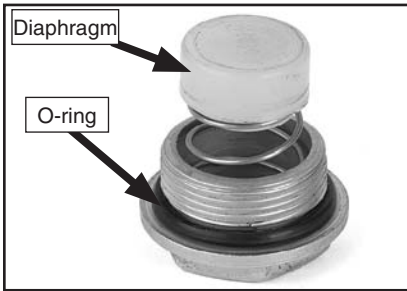

Figure 14. Check valve diaphragm and spring.
3. Inspect the O-ring and diaphragm (**Figure 14**) for damage and dirt.